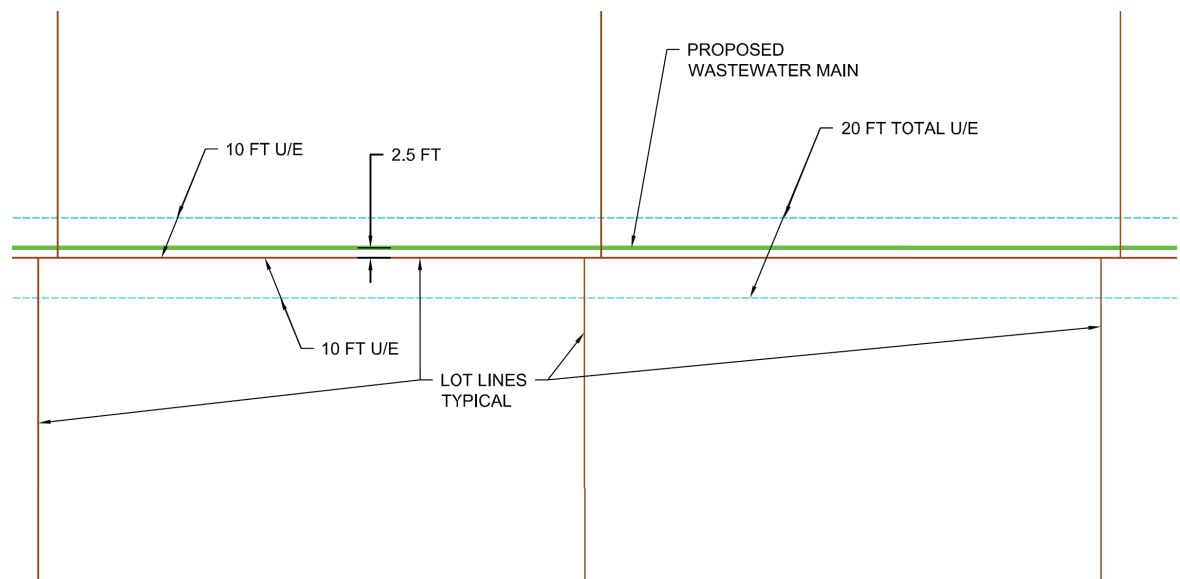

Figure 14- Sewer Back Lots
- 4.2. Public wastewater main must be located between the back of adjacent lots, with at least a ten (10) feet U/E in each lot. A total of twenty (20) feet U/E is required or as per Table 2. The wastewater main must be a minimum of two and one half (2-1/2) feet from the property line to avoid conflict with any future fence(s). See Figure 14.